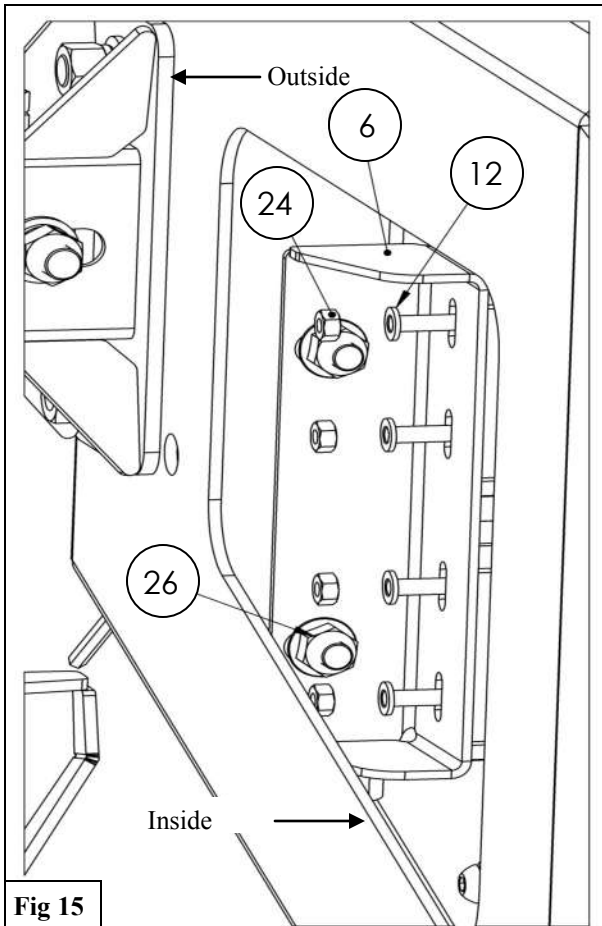

Fig 15
12. Install the Rubber Bumper Assembly to the Tire Carrier (1) using the supplied M10 Hardware. See Figures 15 and 16.